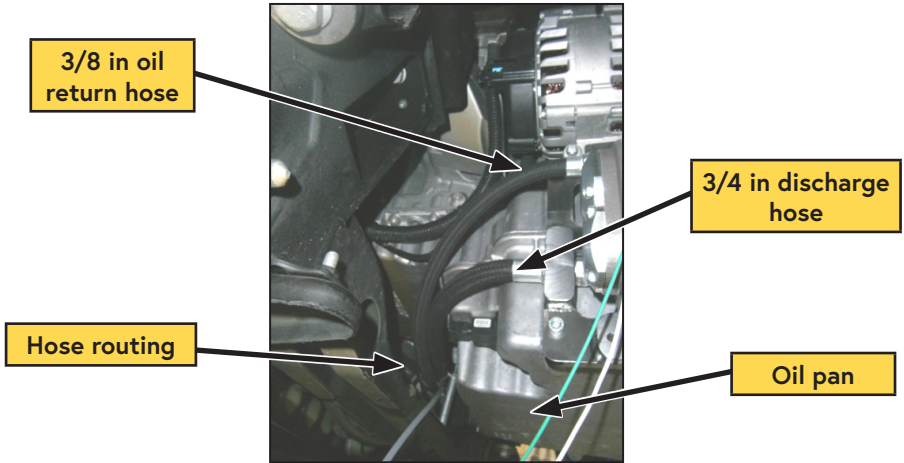

Figure 35 — Hose routing
- Route the 3/4 in x 118 in and 3/8 in x 118 in hoses as well as the 1/4 in x 140 in PTFE tube behind the engine oil pan, positioning them 90° toward the driver side of the vehicle (Figure 35).